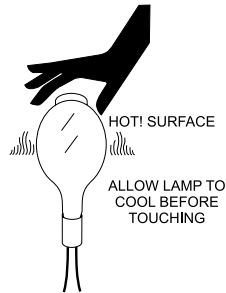

Figure 35. Hot Lamp Surface
1. Allow lamp (Figure 35) 15-20 minutes to cool before changing.